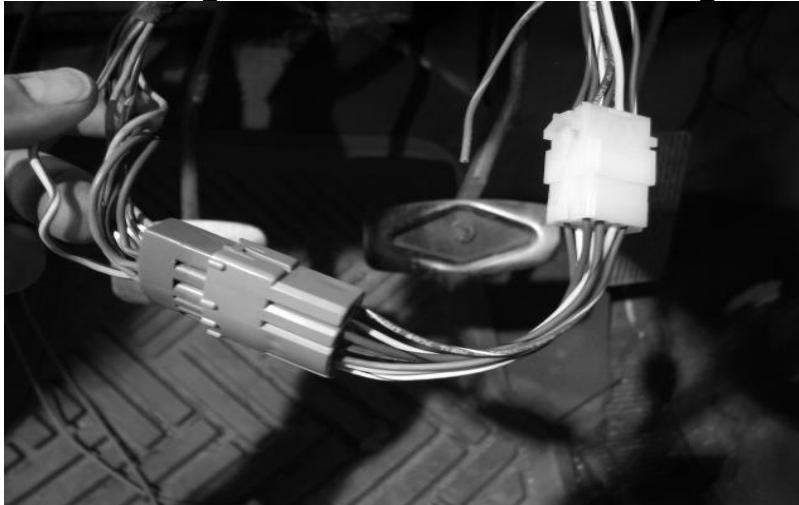

Figure 7-15 Late Model Turn Pigtail ('73-'77)
- 7.6.2** On 1973-1977 Model Trucks it will be necessary to use the provided "Late Model Turn Pigtail", when connecting the turn signal switch. The connectors for the late model switches ARE NOT available and are therefore not included in this kit. Both the connector and the "RED" terminal lock on the inside will need to be reused. Using a small flat screwdriver and/or a small pair of needle nose pliers, gently pry out the lock and remove the original wires. The pigtail wire colors match the original colors from the old harness. **See Figure 7-15. Note: If using a Tachometer, notice the signal wire for it is in the Turn Signal breakout of the harness.**